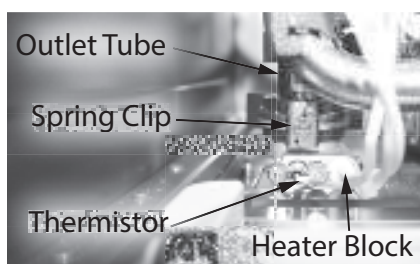

Figure 229 - Outlet tube location
17 Locate the spring clip (size 30) at the base of the outlet tube. See Figure 229. Remove and set this clip aside in a safe place for reinstallation.
19 Locate the two (2) screws securing the thermistor and heating block to the outlet assembly. Use a Phillips screwdriver to remove the screws. Place screws aside in a safe place for reinstallation. See Figure 229.